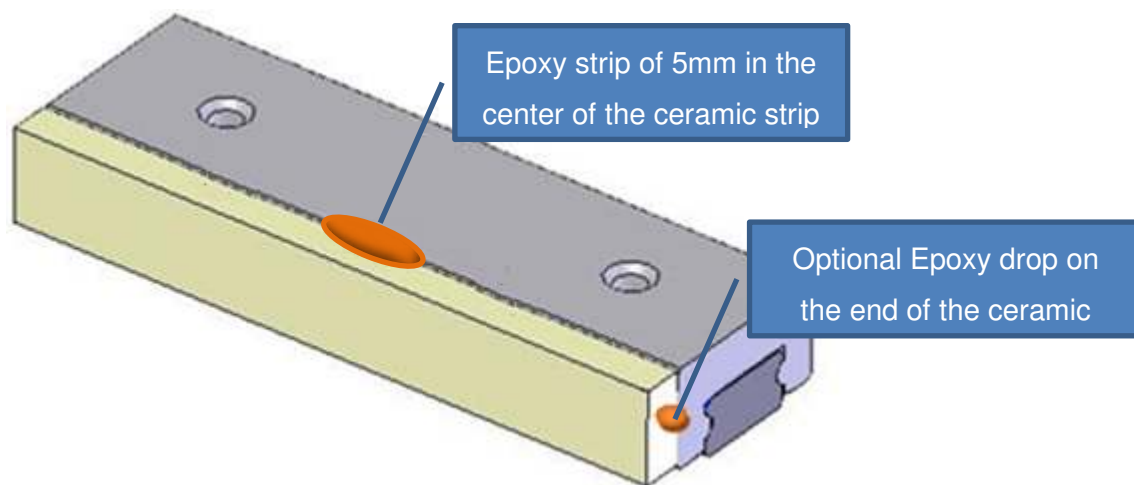

Figure 1: Bonding the Ceramic Driving Strip
Attach the Ceramic Driving Strip to the previously cleaned stage area (see Figure 1), making sure no air bubbles are trapped between the stage and the ceramic.
4. Apply Epoxy adhesive on the center of the Ceramic Driving Strip surface, about 5 mm length (see Figure 1). For short strips up to 10mm, a single drop can be applied on each end of the Ceramic Driving Strip (see Optional Epoxy drop in Figure 1). The Epoxy must bond the strip to the slide. Recommended adhesive: Araldite 2014-1 or compatible.